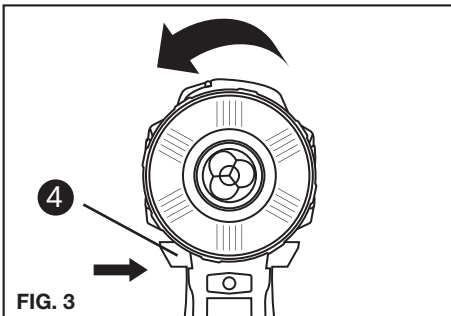
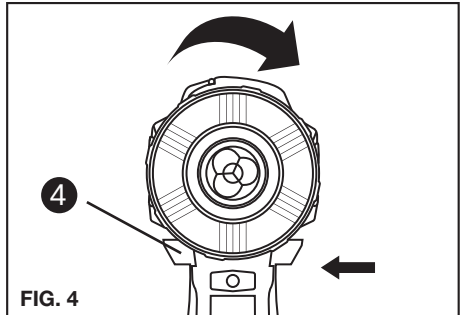

FIG. 3
FIG. 4
3. REVERSIBLE (SEE FIG. 3, FIG. 4)